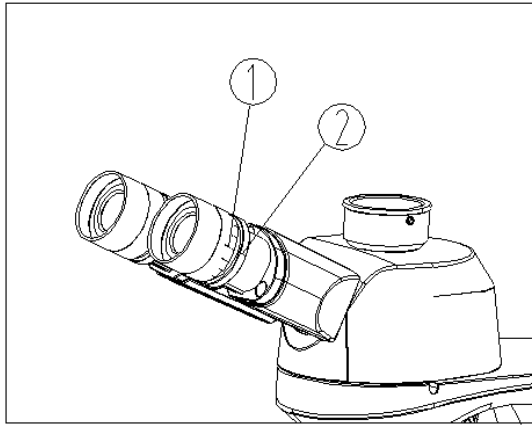

Fig. 7
Set the left diopter collar scale ① to “0” (Fig. 7).